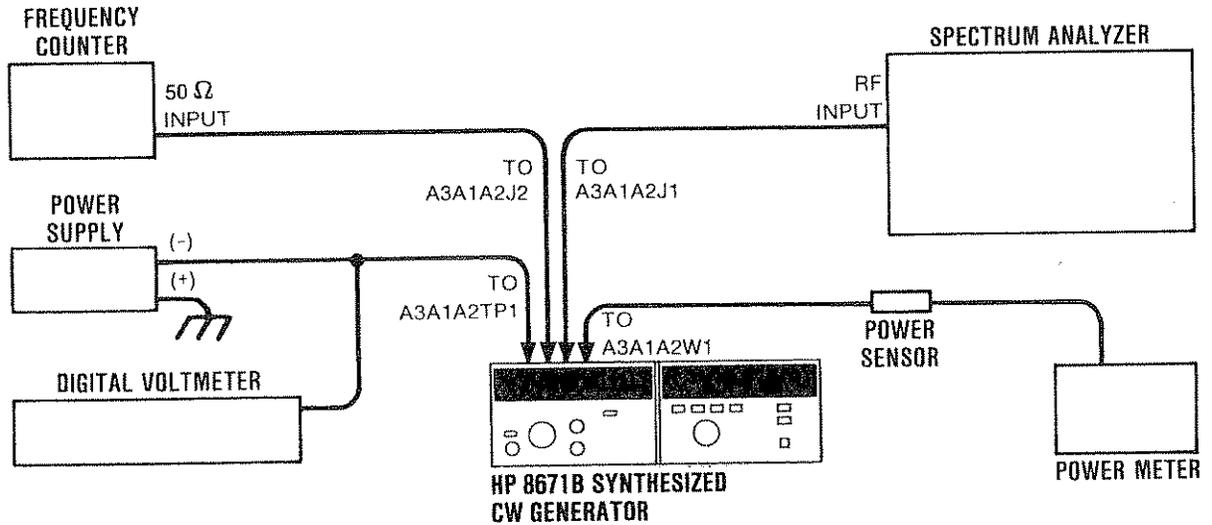

Figure 5-2. 100 MHz VCXO Adjustment Test Setup
1. Connect the frequency counter to A3A1A2J2 in place of the termination and connect the spectrum analyzer to A3A1A2J1 in place of the gray-orange-white cable, as shown in Figure 5-2.